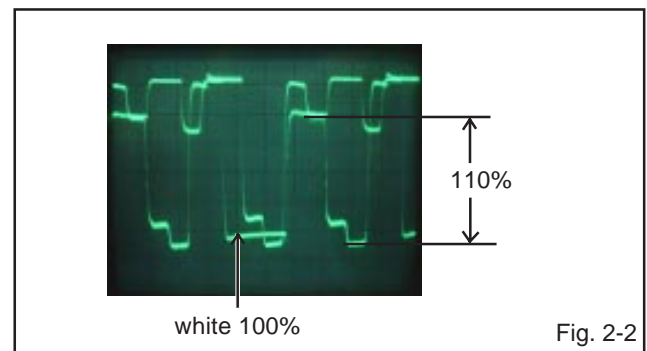

Fig. 2-2
6. Press the VOL. UP/DOWN button on the remote control until the red color level is adjusted to  $110 \pm 10\%$  of the white level. **(Refer to Fig. 2-2)**